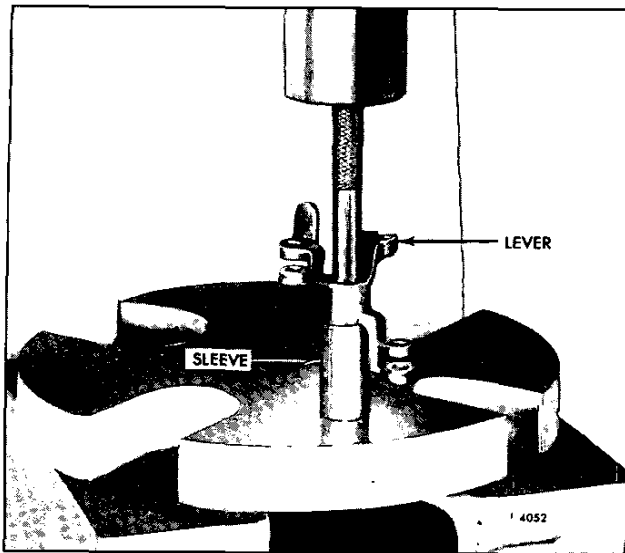

Fig. 8 - Removing or Installing Control Link Lever Bearings Using Tool J 8985
3. If the bearings require replacement, support the control link lever on a sleeve placed on the bed of an arbor press. Then press the bearings out of the lever with tool J 8985 (Fig. 8).